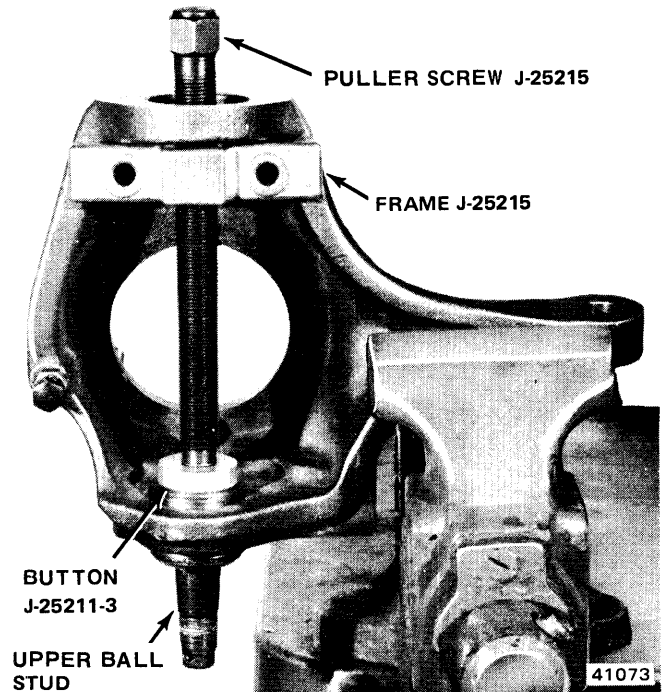

Fig. 10-8 Upper Ball Stud Removal
- (4) Disassemble Puller J-25215. On CJ models, install Adapter J-25211-4 on puller screw with adapter shoulder toward head of screw. Thread puller nut about halfway onto screw. Place Button J-25211-3 on upper joint and install puller in knuckle (fig. 10-8). Tighten screw to remove upper ball stud.